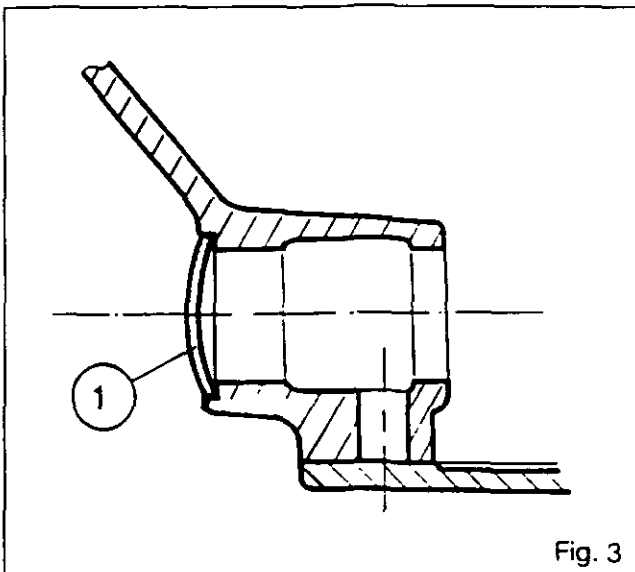

Fig. 3
14. Remove circlip (30).
15. Remove plugs (1) and (24)(Figs.3 and 4).